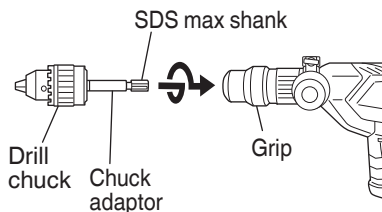

Fig. 15
- (2) Attaching chuck adaptor to drill chuck (Fig. 15)